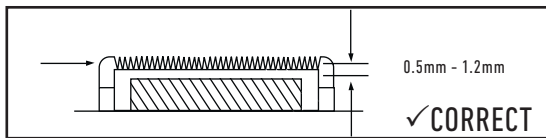

Fig. 1
4. Re-assembly is simply the reverse of the above instructions. To re-assemble, position the large top blade on top of the small bottom blade by matching them up, point to point. The blade teeth on the large top blade should be 0.5mm to 1.2mm back from the small bottom blade (see Fig.1).